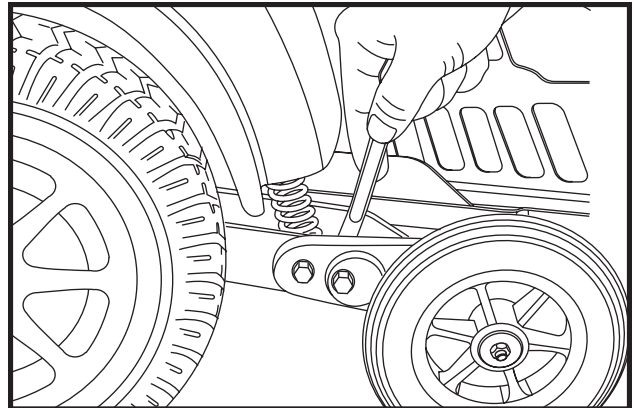

Figure 26. Anti-Tip Bracket (Inner Locknut)
1. Place an adjustable spanner on the inner locknut of the anti-tip bracket located right after the shock strut. See figure 26.